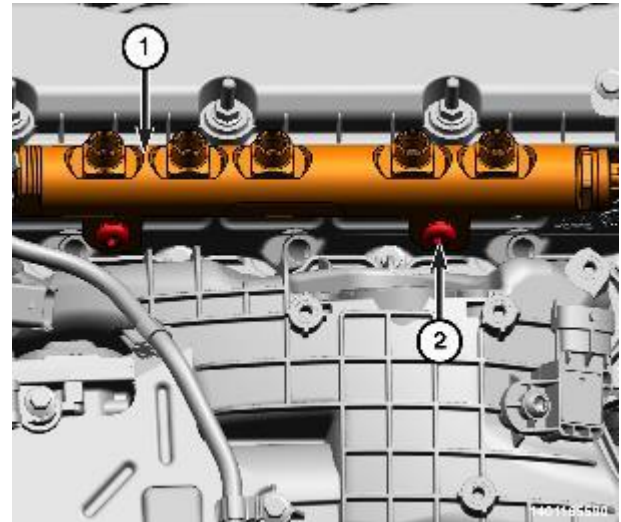

Figure 125 – Right Fuel Rail
62. Using the Remover-Installer, Fuel Rail Bolt 2025400090, remove the right fuel rail bolts (2) and the right fuel rail (1) (Figure 125).